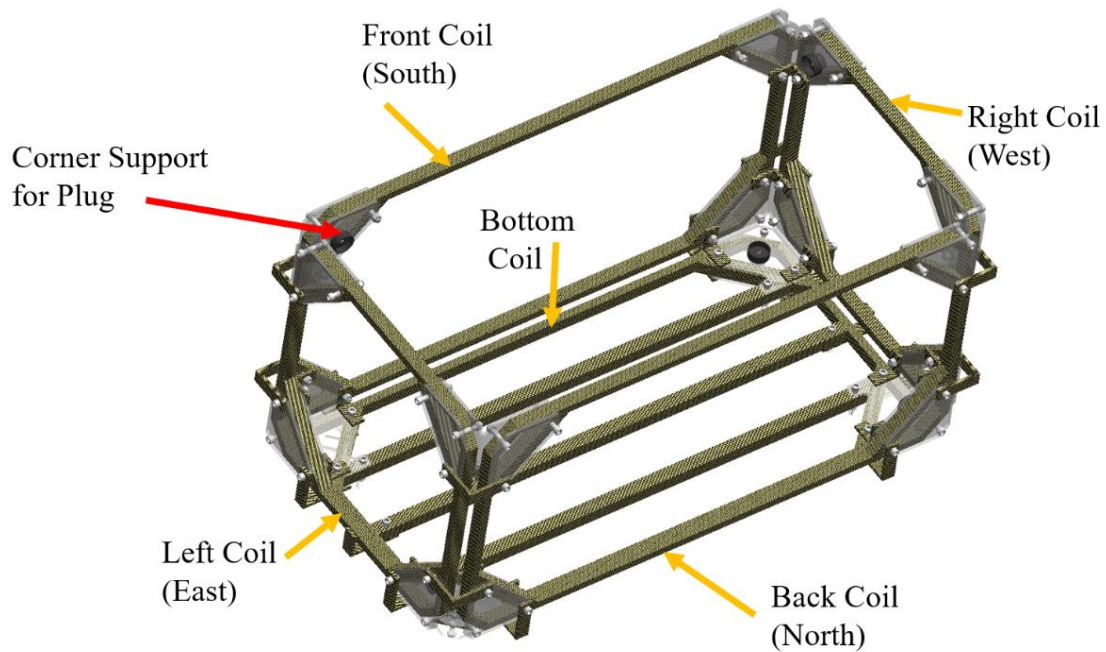

Figure 1.8
9. Attach the Front Coil (PN ASMB007) to the Bottom Coil (PN ASMB009), between the Right Coil (PN ASMB005) and Left Coil (ASMB004) as shown in Figure 1.8. The Front Coil long edge closest to the plug should be bolted to the long edge of the Bottom Coil closest to the Bottom Coil's plug. The Front Coil should slot in between the two Outer Angle Bracket and Inner Angle Bracket pairs on the left, right, and bottom coils. Bolt the currently unbolted holes in the brackets to the unbolted holes in the acrylic supports on the Back Coil using six 2.5" 3/8-16 bolts (PN OUTS003), and six 3/8-16 nuts (PN OUTS004). Note: match drill to fit as needed.